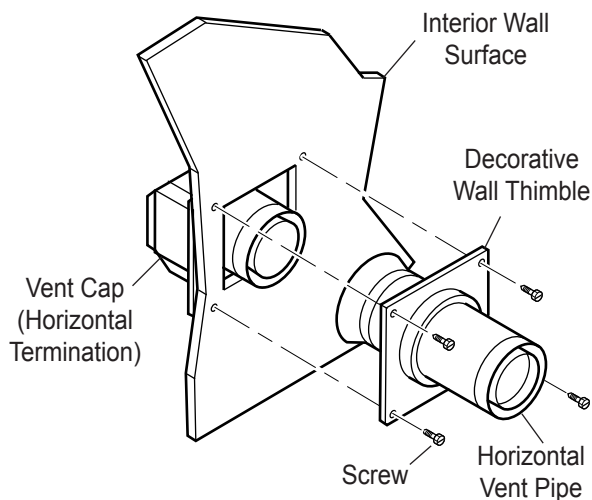

Figure 16 - Connecting Vent Cap with Horizontal Vent Pipe
5. Slide the wall thimble over the vent pipe before connecting the horizontal run to the vent cap. *See Figure 16.*
7. Slide the wall thimble against the interior wall surface and attach with screws. *See Figure 16.*